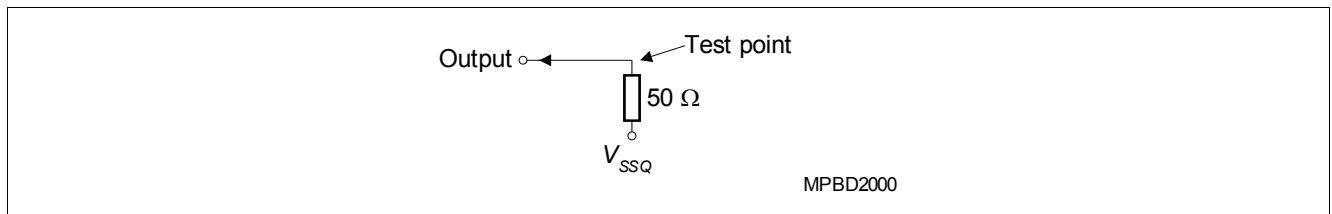

Figure 53 Pulldown slew rate test load
- Pulldown slew rate is measured under the test conditions shown in Figure 53.